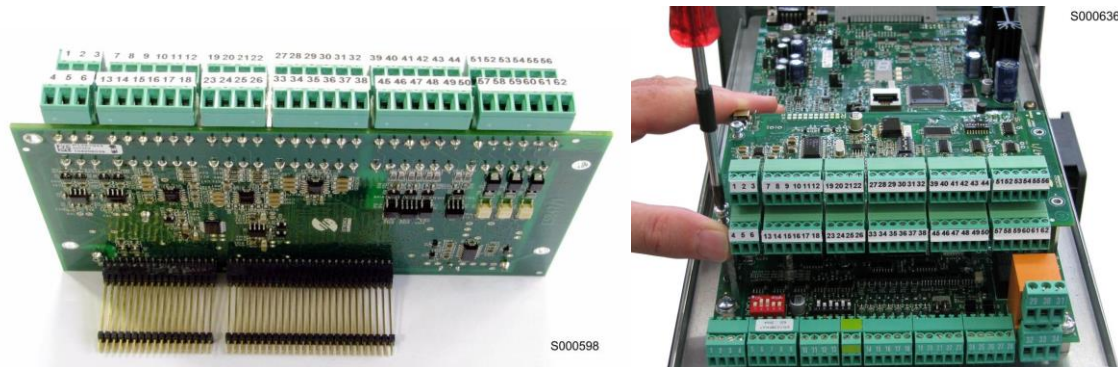

Figure 126: Fitting the strips inside ES847 board and fixing the board on slot C
3. Insert the two contact strips supplied in the bottom part of ES847 board; make sure that each contact enters its slot in the connector. Insert ES847 board over the control board of the drive; make sure that each contact enters its slot in the signal connector. Use the screws supplied to fasten board ES847 to the fixing spacers (Figure 126).